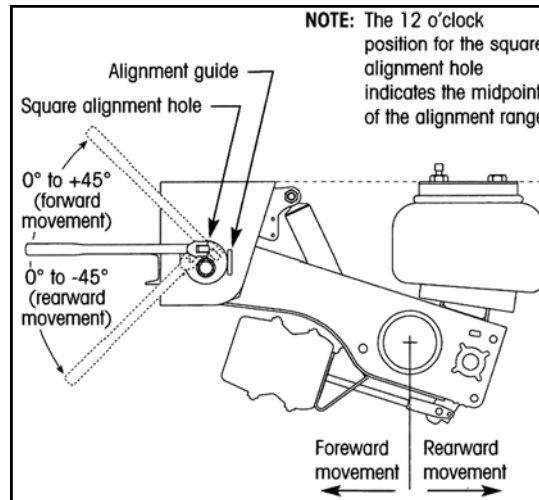

Figure 22. Quick-Align Operation
10. The **QUIK-ALIGN**[®] style pivot connection uses two flanged collars inserted into slots on each side of the frame bracket (figure 23). The eccentric collar on the outboard side of the frame bracket is used to adjust the position of the axle during an alignment. The alignment guides on the side of the frame bracket limit the eccentric collar to rotational movement in the frame bracket slot. Rotating the eccentric collar clockwise causes the axle to move forward. Rotating the eccentric collar counterclockwise causes the axle to move rearward (figure 22). The maximum range of adjustment is ± 45 degrees from the 12 o'clock position.